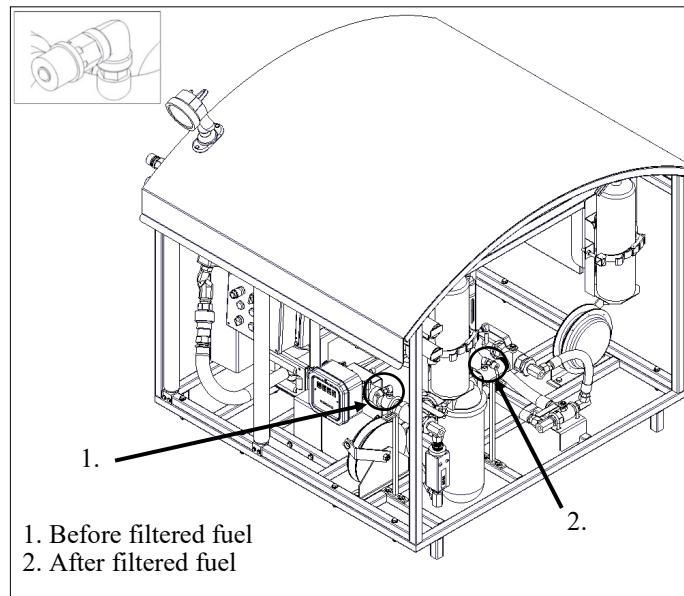

Figure 3-2 Sample Ports
There are two ports used solely for taking fuel samples. The sample ports are located before and after the filter. (See Figure 3-2)
- c. To take fuel before filtering, unscrew the cap to the sample Port (1) shown in Figure 3-2.
- d. After filtering fuel samples can be taken by unscrewing cap to the fuel sample port (2).